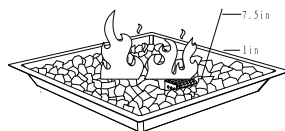

Figure 3
7. Adjust the flame to the desired height with the gas control knob. Visually check the burner flames as picture below. (see figure 3)